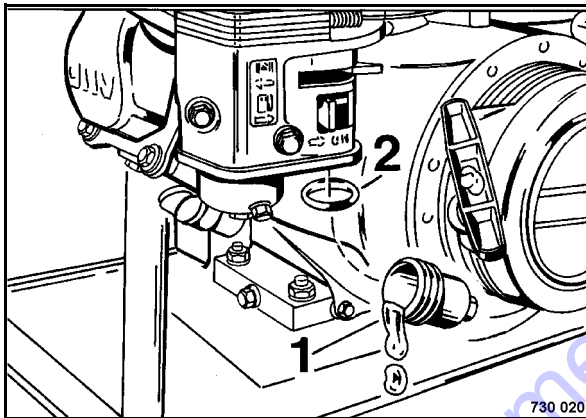

Fig. 54
- With the fuel tap closed unscrew the fuel sludge filter (1) (Fig. 54) and wash out in fuel.
- Check the O-ring (2) for damage, replace if necessary.